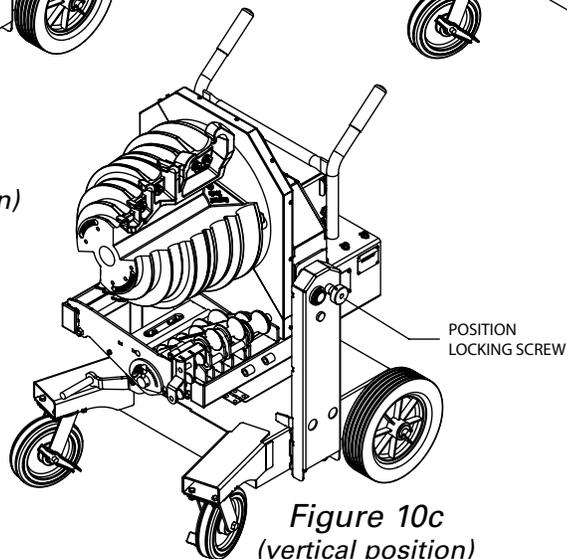

Figure 10c
3. Screw the position locking screw fully into the hole on the side of the bender power unit until tight. (See Figure 10c). The bender is now secured and ready to be moved on the ground.
1. Rotate the bender power unit to the vertical position and secure with the position locking screw (See Figure 10c).